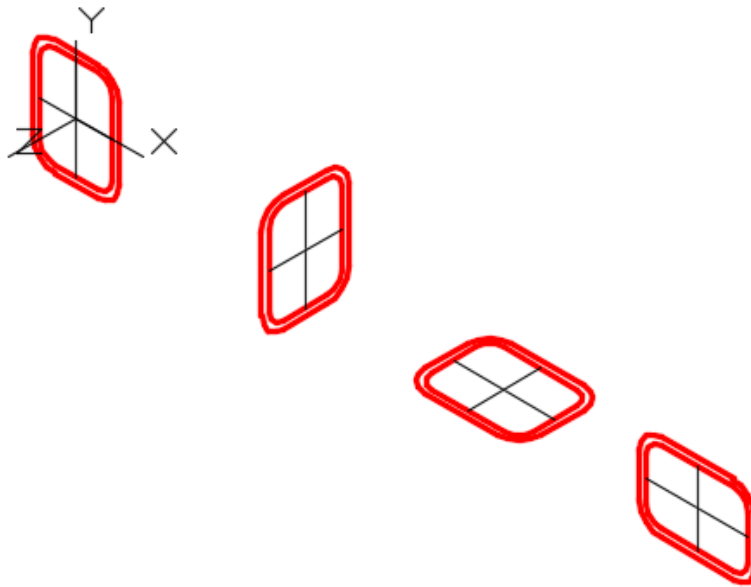

Figure Step 8
Step 8 Make three additional copies of the model and rotate them to lay on different UCS planes. Their location in 3D space is not important. (Figure Step 8)